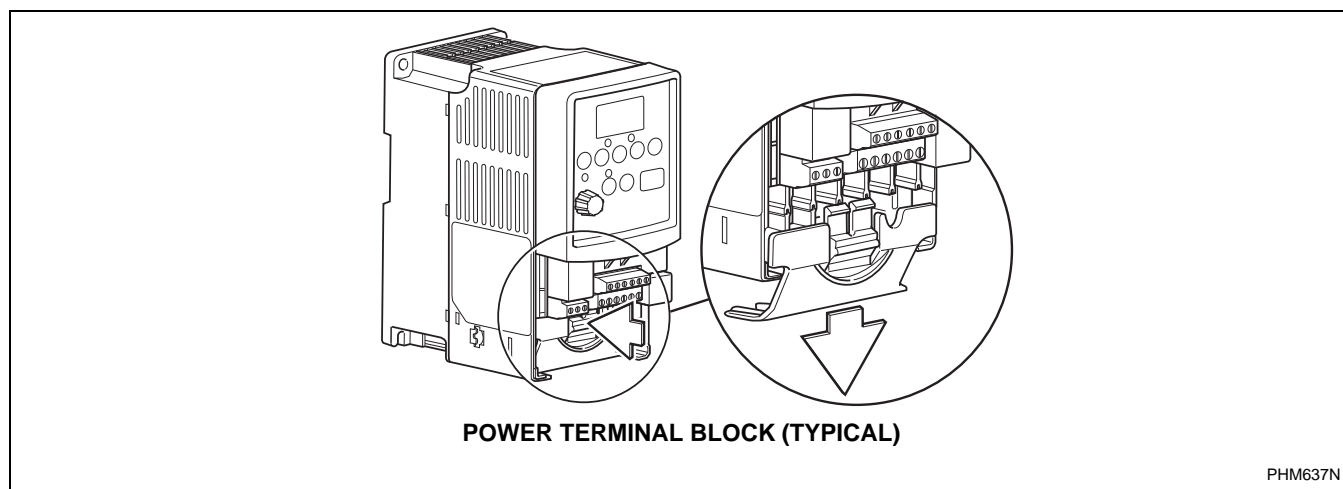

Figure 7
2. Slide finger guard down and out. Refer to *Figure 7*.